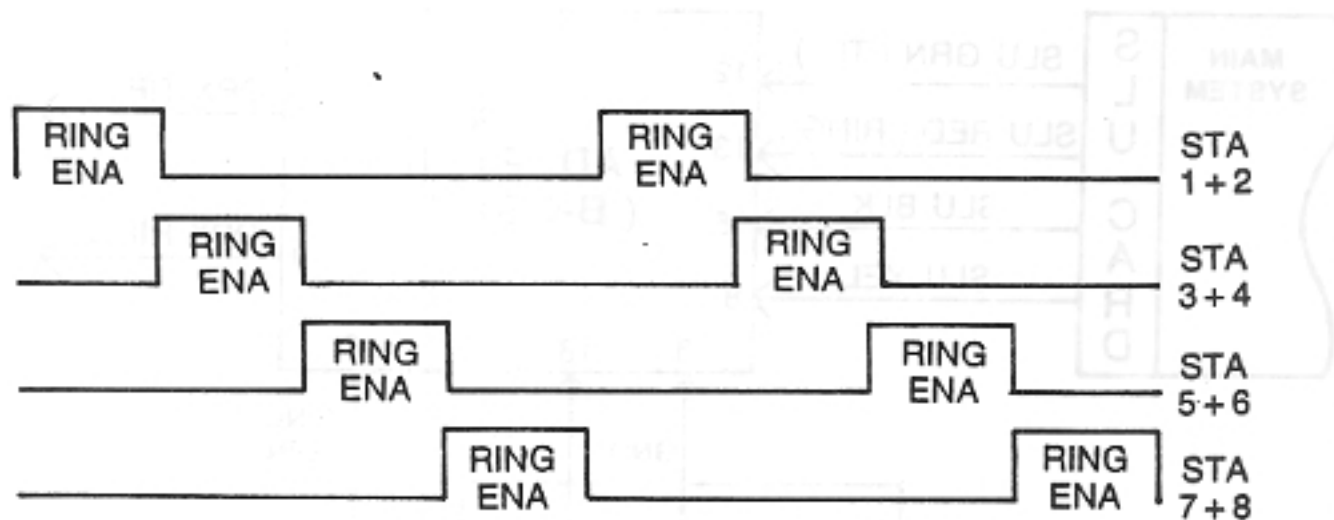

Figure 12 B-8SLU-B RING ENABLE CYCLES
**5.02** Ring Equivalence Number ( REN ) considerations when connecting off-premise stations are provided in Figure 12.
Figure 12 shows the relationship between the ring enable signals found on one SLU card. The ring equivalence number ( REN ) of the station pairs shown ( 1 and 2 ), ( 3 and 4 ), ( 5 and 6 ), ( 7 and 8 ) must not exceed 5.0B, when both stations in each pair be addressed to ring at the same time.